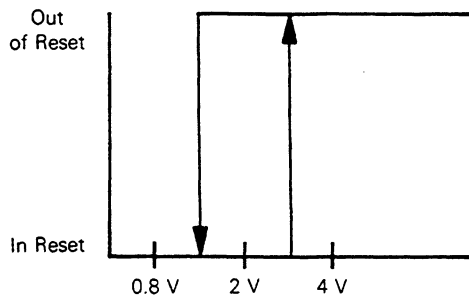

Figure 7-1. Typical Reset Schmitt Trigger Hysteresis
The MCU can be reset three ways: (1) by initial power-up, (2) by the external reset input ( $\overline{\text{RESET}}$ ) and (3) by an optional, internal, low-voltage detect circuit (not available on the MC68705P3 EPROM version). The  $\overline{\text{RESET}}$  input consists mainly of a Schmitt trigger that senses the  $\overline{\text{RESET}}$  line logic level. A typical reset Schmitt trigger hysteresis curve is shown in Figure 7-1. The Schmitt trigger provides an internal reset voltage if it senses a logical zero on the  $\overline{\text{RESET}}$  pin.